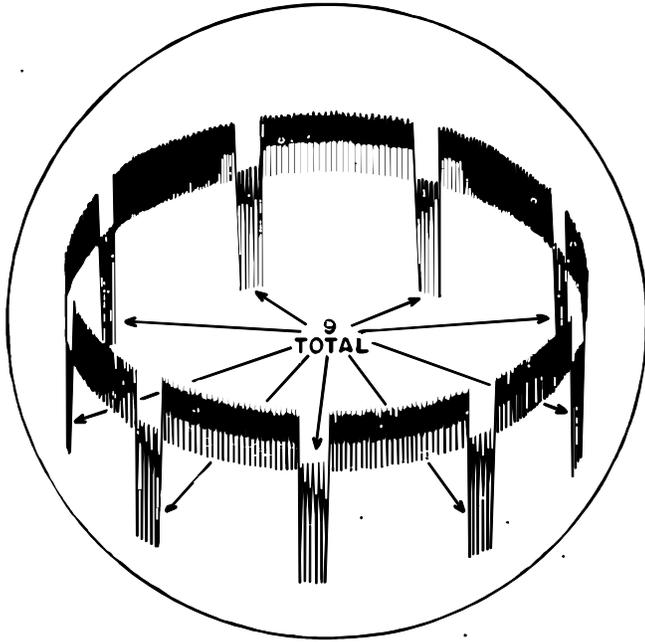

FIGURE 6.1 OSCILLOSCOPE PATTERN WITH VERTICAL OSCILLATOR IN SYNC.
3. Turn the SWEEP SELECTOR control of the scope so that a 60-cycle sinusoidal voltage will be applied to the horizontal plates. Do not use the SWEEP CIRCUIT OSC. of the scope. If the vertical oscillator is in synchronism a pattern such as shown in Figure 6.1 should be obtained. The pattern may slowly revolve as the result of a slight discrepancy between the crystal-controlled oscillator and the line frequency. If the vertical oscillator is not in synchronism, the pattern may revolve quite rapidly, making as much as one or more revolutions per second.